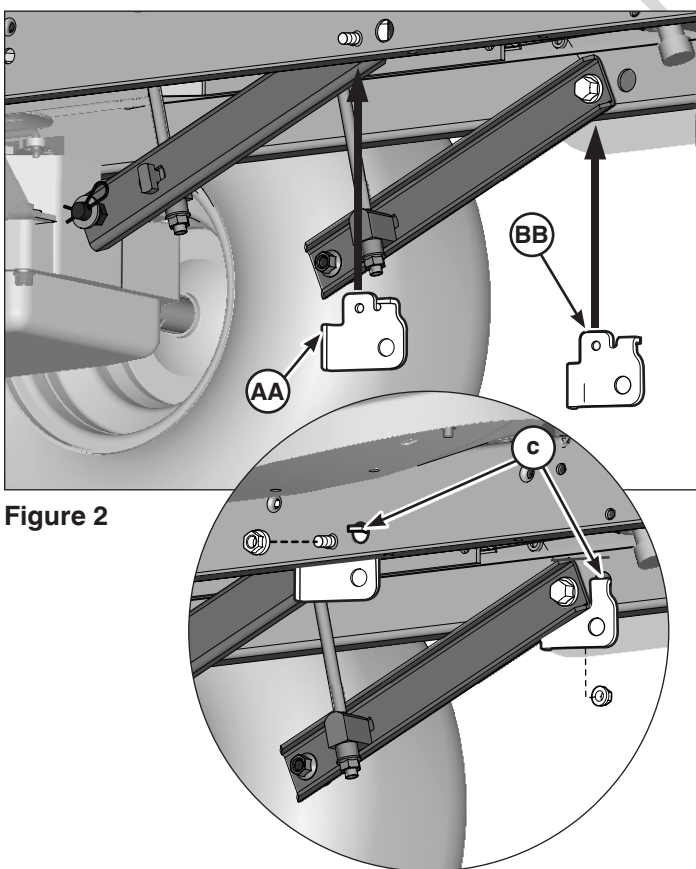

Figure 2
2. Insert right (AA, Figure 2) and left (BB) rear hitch supports between tractor and lift arm. Secure with nuts and bolts from Step 1. Make sure the hooks (c) of the hitch supports are inserted into the holes of the tractor frame.